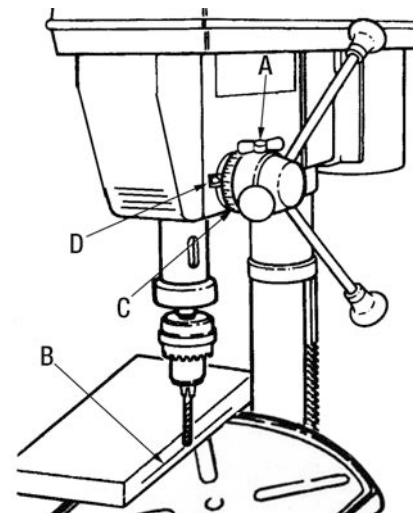

FIGURE 19
2. Loosen the depth scale lock knob (A) Fig.19.
3. With the switch OFF, bring the drill bit down until the tip of the lips of the drill bit are even with the mark (B).
4. Turn the depth scale (C) counterclockwise until it stops moving.
1. With the power OFF, loosen the depth scale lock knob (A) Fig.19.
3. Turn the depth scale (C) clockwise until the depth scale indicator (D) points to the desired drilling depth on the scale.
1. With the chuck at its highest possible position, turn the depth scale (C) Fig.19 clockwise until it stops and tighten the depth scale lock knob (A) Fig.19. This will prevent the quill from dropping while tensioning the spring.